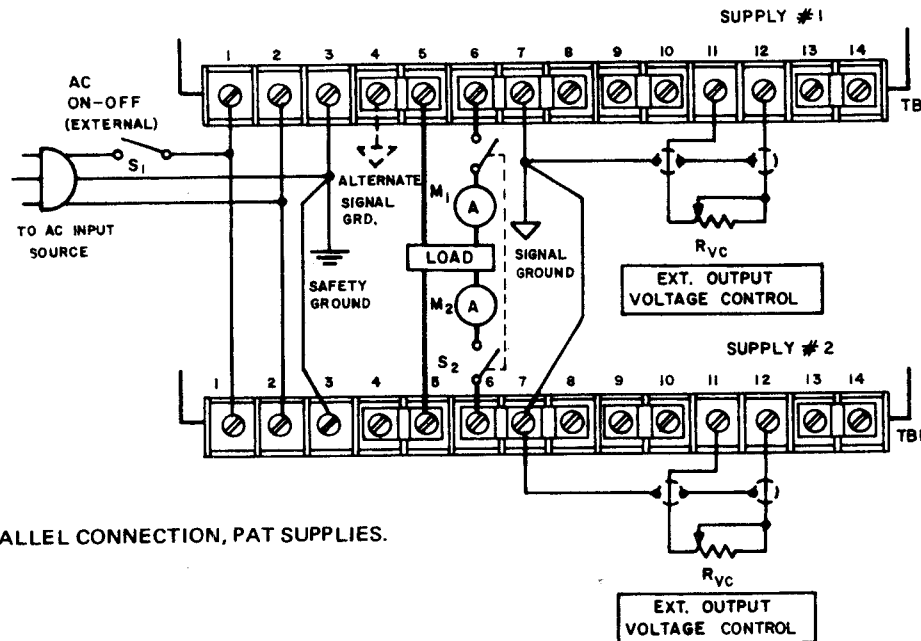

FIG. 3-13 PARALLEL CONNECTION, PAT SUPPLIES.
- Connect units as shown in FIG. 3-13. Open SW-1 and SW-2 and connect to line.